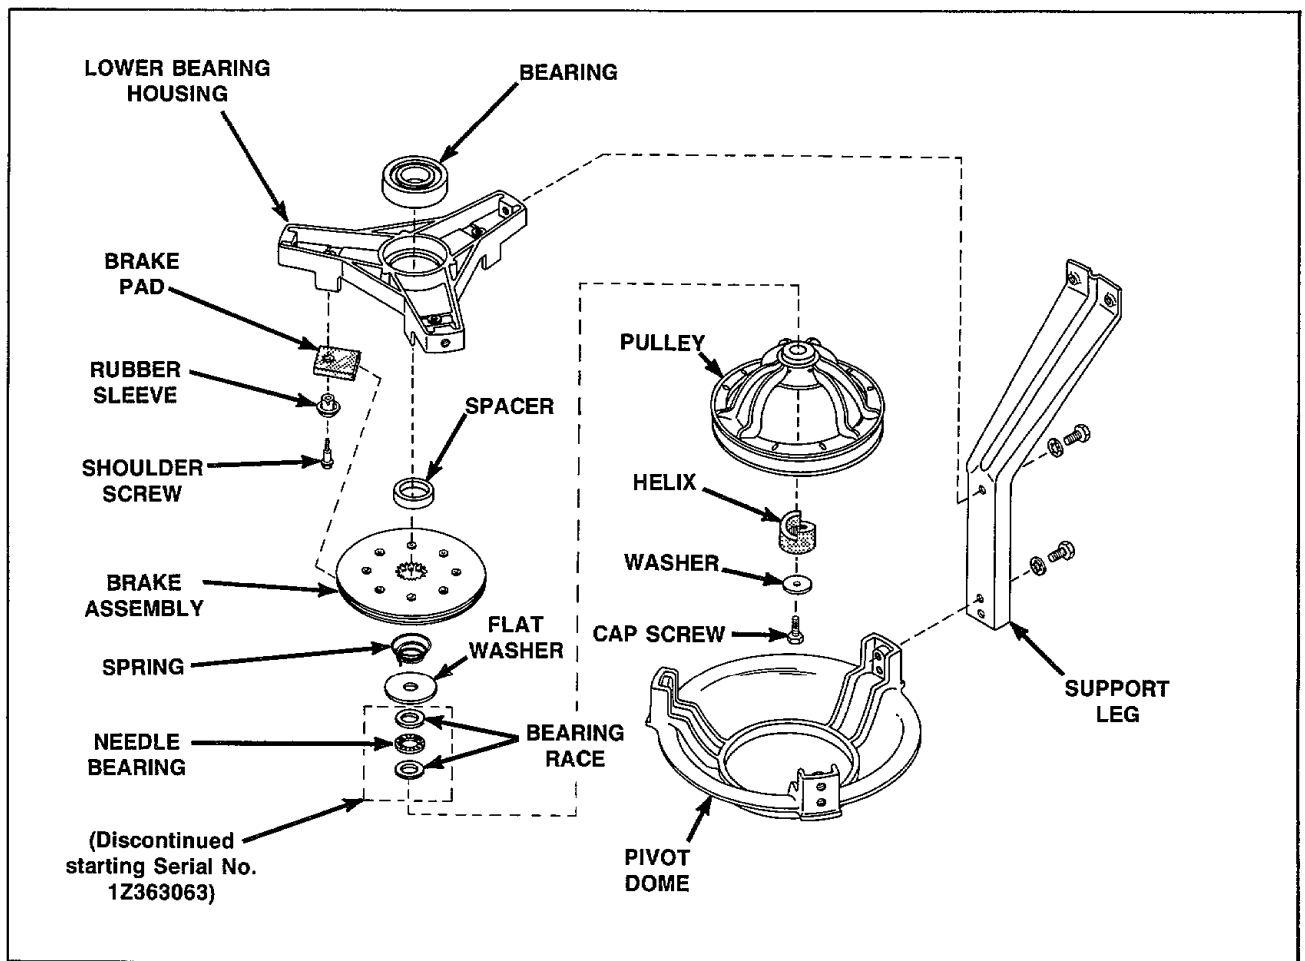

Figure 48
IMPORTANT: When reassembling, large flat washer, bearing race, needle bearing and bearing race must be in place, see *Figure 48* for assembly sequence.
IMPORTANT: Large flat washer must be in place between the spring and drive pulley when reassembling, see *Figure 48* for assembly sequence.
NOTE: When reassembling, place a small amount of No. 21814 Lubricant to the top side of the drive pulley that will be contacting the large flat washer. Lubricate the helix ramps with No. 03200 Lubricant. See *Figure 48*.
- Using a right angle needle nose pliers, remove spring from around lower transmission tube (located inside brake assembly), *Figure 48*.
- Remove three screws holding brake pads, rubber sleeves and brake assembly to lower bearing housing, *Figure 48*, then remove brake assembly, pads and spacer off bottom of transmission assembly.
NOTE: Refer to *Figure 48* for assembly sequence.
- p. Remove needle bearing (if present), bearing races (if present) and large flat washer from transmission shaft, *Figure 48*.
- r. Remove three screws and rubber sleeves holding brake pads to lower bearing housing, *Figure 48*.
- t. Remove three screws holding lower bearing housing to tub support legs, *Figure 48*.